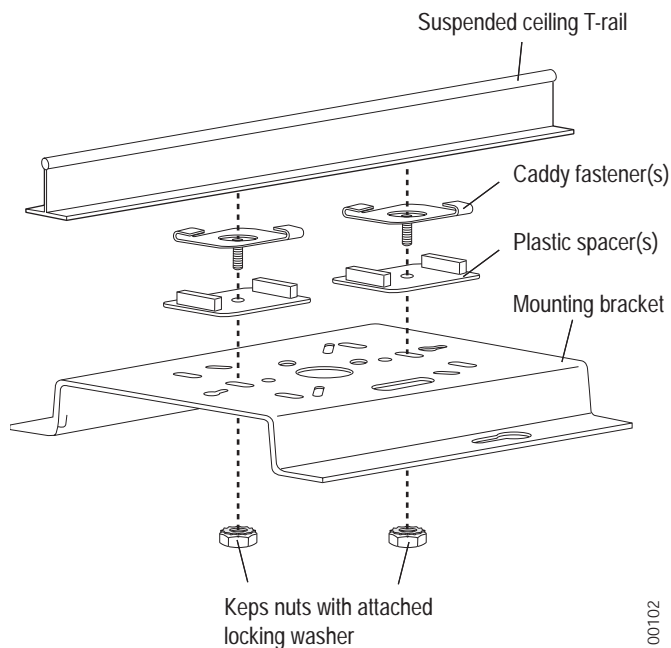

Figure 20: Mounting the AP200 to a Suspended Ceiling Rail
The optional suspended ceiling mounting kit allows the AP200 mounting bracket to attach to suspended ceiling T-rails (see Figure 20).
7. Adjust the height of the box hanger using the height adjusting screws (see Figure 20).